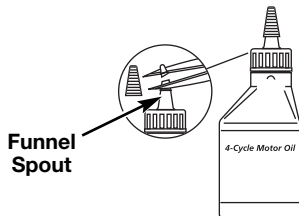

Fig. 15
Your unit is supplied with one 3.04 fluid oz. (90 ml.) bottle of SAE 30 SF, SG, SH oil (Fig. 15).
1. Unscrew the top of the bottle of oil and remove the paper seal covering the opening. Replace the top. Next, cut the tip off the funnel spout (Fig. 15).